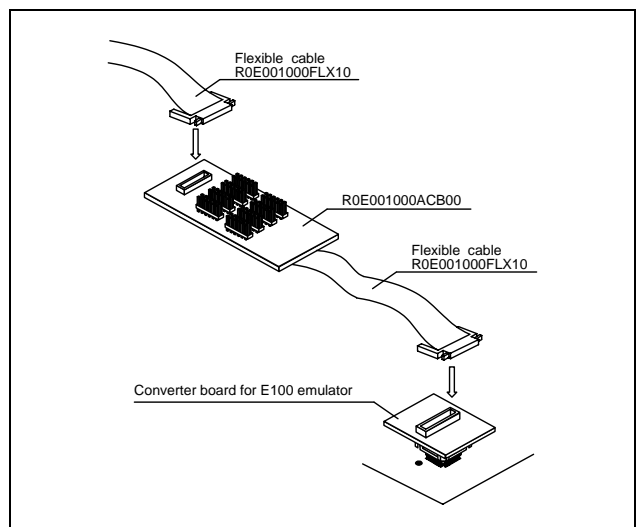

Figure 2 Usage of the R0E001000ACB00 (with one flexible cable)
4. Usage (See Figures 2 and 3)